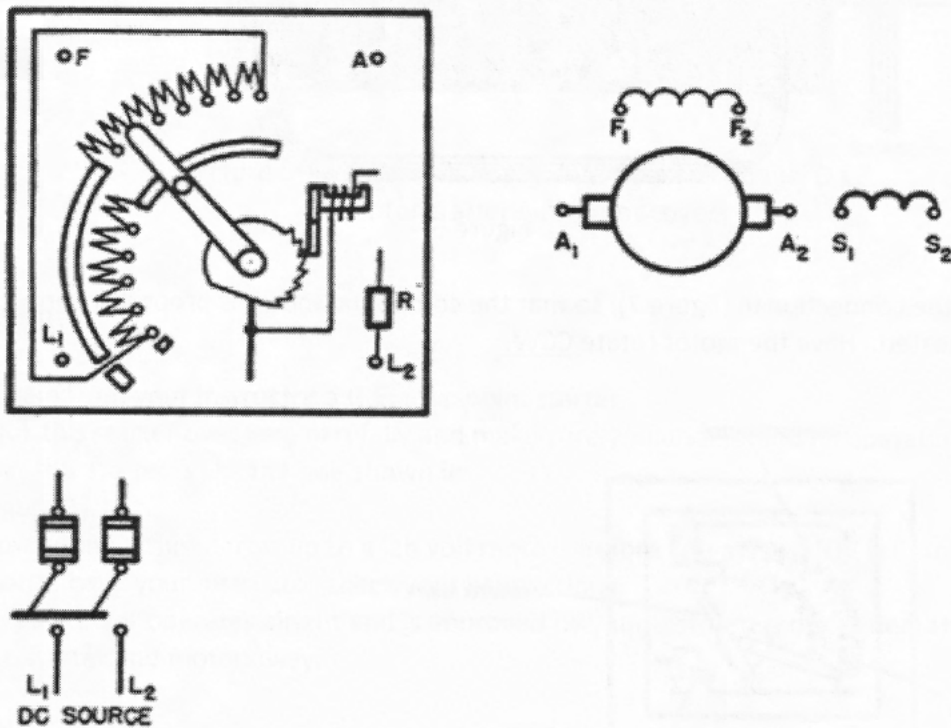

Figure 8
3. Complete the external and internal connections for the above and below normal speed controller and cumulative compound motor illustrated in (figure 8). Have the motor rotate CCW. Refer to your test book and theory modules for additional information about this connection.